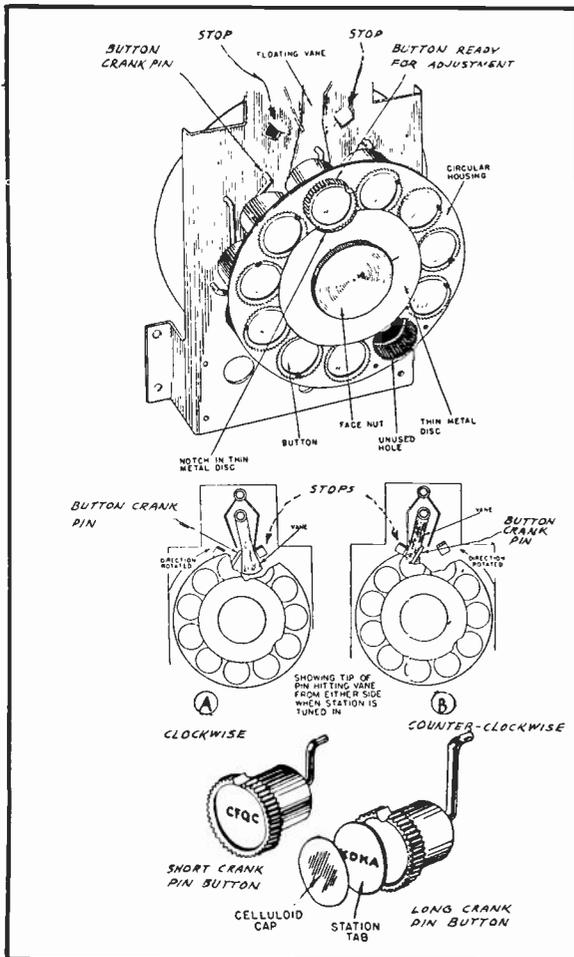

FIG. 4
The operating principle of this tuning system will be made more clear after you have studied the constructional details of the system illustrated in Fig. 4, together with the following explanation of this device.
**CONSTRUCTION AND OPERATION:** In the assembly shown in Fig. 4, the circular housing, containing the buttons, is directly mounted and fastened to the shaft of the gang tuning condenser. Consequently, when one of the station-selecting button plungers is pushed inward, and the disc-shaped housing rotated, the inserted button crankpin will eventually contact the floating vane, cause a locking action and prevent further rotation of either the mechanism or tuning condenser. The receiver will then be tuned to the station for which the particular button has been pre-adjusted.
**INDEXING METHOD:** Fig. 4 also illustrates the action of this particular indexing adjustment. In the upper illustration of Fig. 4 the outer ornamental dial plate has been removed for the set-up operations, and has been replaced by a thin metal disc, held in position by the knurled face-nut. This disc is a special service tool that has a single semi-circular notch cut in its periphery so that by rotating the disc to any desired position, and locking it in place, any one button may be moved toward the front while the rest of the buttons are all held in place. Thus the button aligned with the notch of the disc will, under the action of its spring, be moved toward the front sufficiently to allow its serrations (gear-like head) to clear those of the housing. This particular button assembly may then be rotated one way or the other so that the button crankpin will be in the correct position to jam against the locking vane either sooner or later, and when the condenser plates are in the position to tune in the desired station.
**THE STATION STOP:** As will be seen in the top and center illustrations of Fig. 4, the station-stop arrangement consists of a floating vane, operating between fixed stops. The vane of the stop assembly is so shaped that the center of the button crankpin will be located on a line drawn vertically through the center of the dial mechanism when the crankpin pushes the vane against either stop. In other words, the shape of the vane and its thickness are such that independent of the position of the crankpin, it will be centrally located when approaching the stop from either direction.
Note also in the top illustration of Fig. 4 that all of the button crankpins, except that of the depressed button, will clear the floating vane by sliding freely over its face, as springs within the button assemblies normally force the button and crankpin outward sufficiently to provide this clearance at all times except when a button is depressed. This feature prevents the crankpins of the unused buttons from dropping into the locking positions.
In this dial assembly, rotation of the mechanism and condenser may be either clockwise or counter-clockwise, as shown in illustrations (A) and (B) of Fig. 4. Here it will be observed that (A) illustrates the locking action when tuning the mechanism clockwise, while (B) illustrates the locking action when rotating the mechanism counter-clockwise.